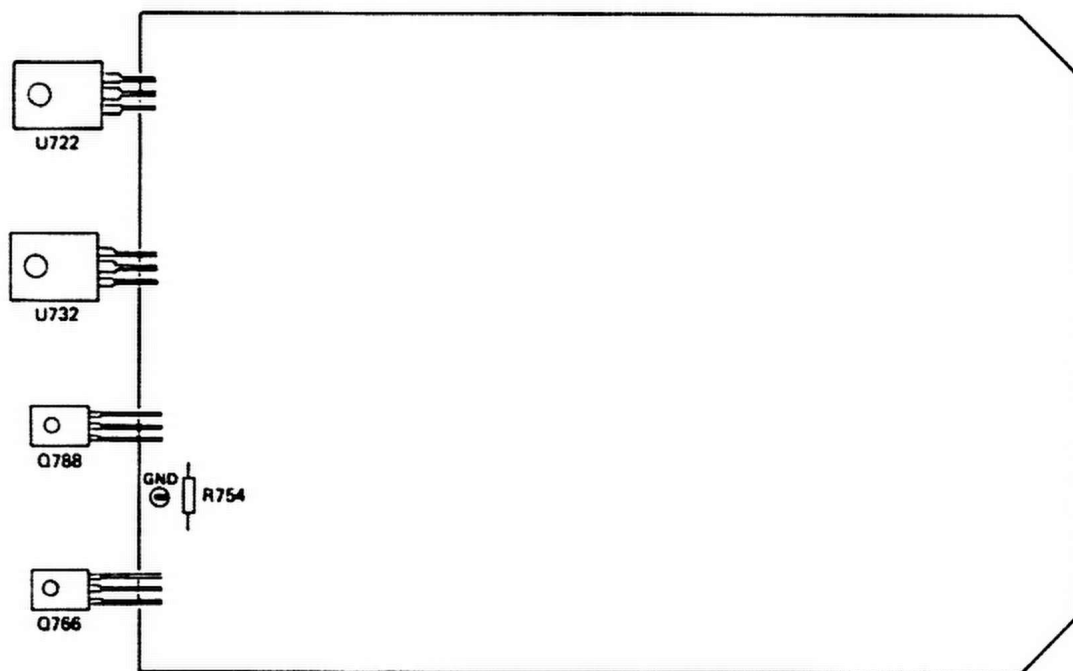

Fig. 1. Partial Power Supply circuit board.
- () 1. Remove the four (4) screws located near the corners of the power supply rear cover. This cover is the lower one of the two panels at the rear of the instrument.
- () 3. Replace resistor R754, 680k Ω , with the 300k Ω resistor included in the kit. R754 is located near the GND test point on the left side of the Power Supply circuit board, A3. R754 is connected to the collector of the transistor Q766. See Fig. 1.